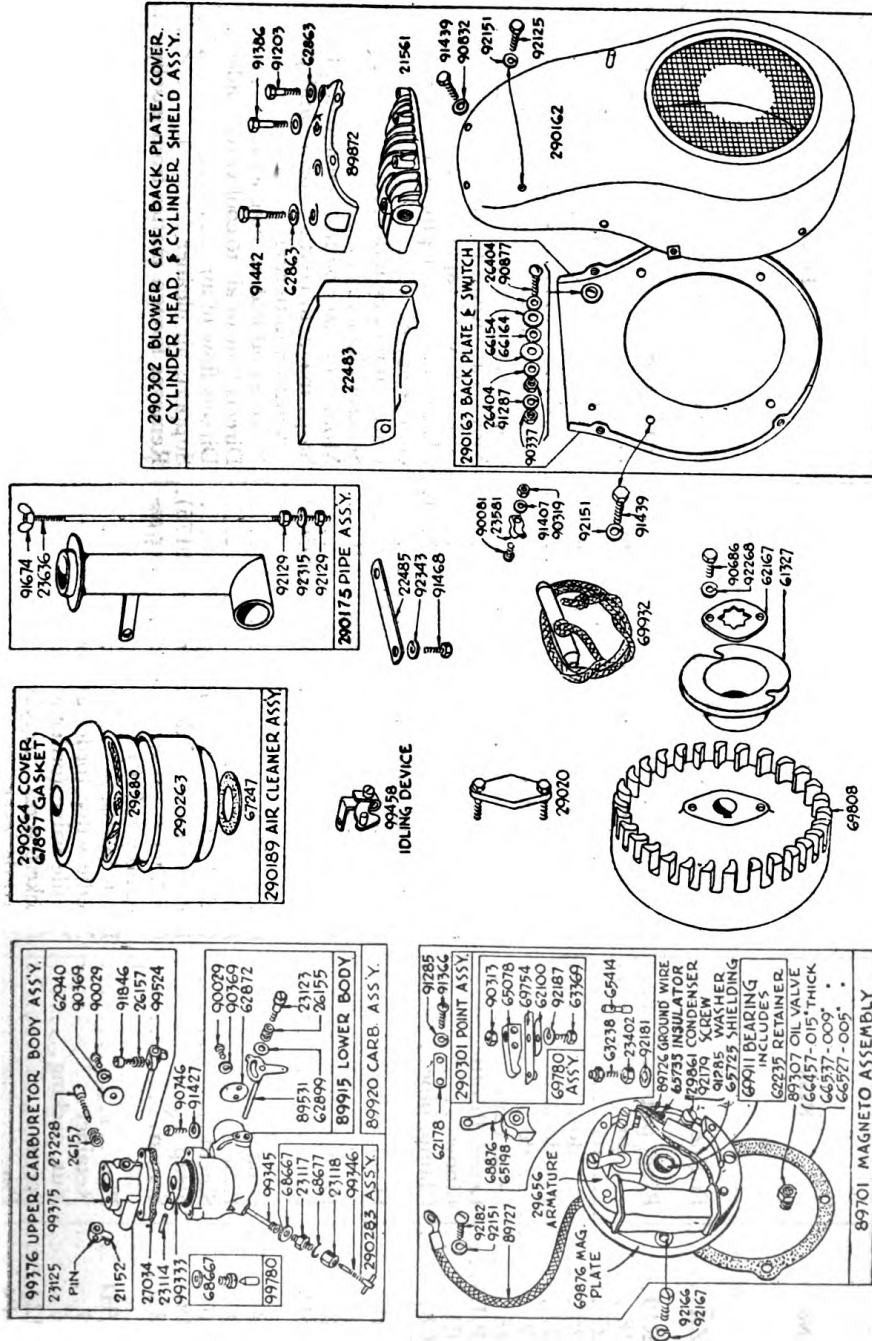

FIGURE 21.1 (Added). Power Unit PE-75-U, engine parts.
**a. (Superseded.) Gasoline engine, Briggs and Stratton Model ZZ (figs. 21 and 21.1).** Note that figure 21.1 covers PE-75-U only, showing the differences between this and earlier models. Complete assemblies as shown in figure 21.1 are stocked and should be ordered for unit replacement rather than as individual items.